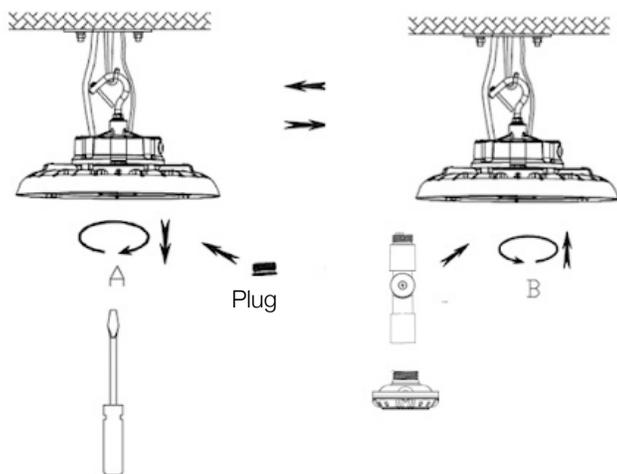

Fig. 10
2. Thread the 3-pin male connector of the knuckle body into the existing motion sensor receptacle on the luminaire. (Fig. 10).